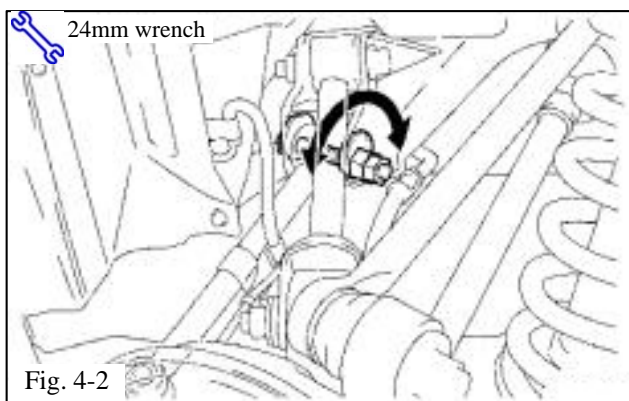

Fig. 4-2
- (a) Loosen the toe adjust cam nut (Fig. 4-2).
- (c) Tighten the nut (Fig. 4-2).